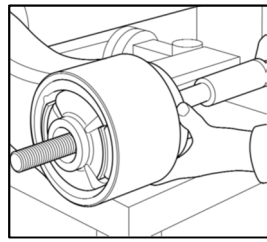

Fig.9
11. Press the Front Bush Tool (FBT) "C" against the pivot bush and insert the threaded bar "G". Fit washer "H" and nut "A" to draw bar and secure to FBT "C" (Fig. 9).